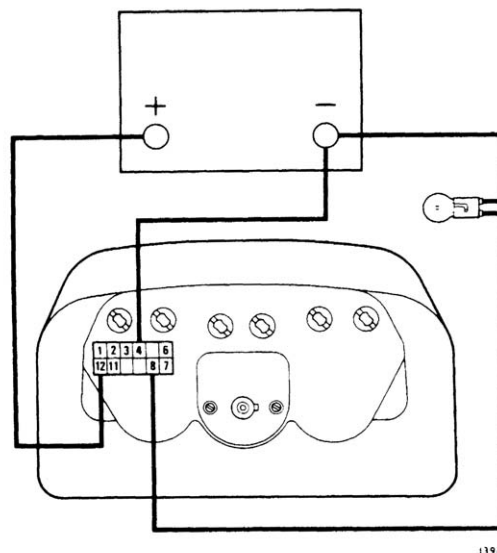

Fig 19 - Water temperature gauge test
71 To test the water temperature gauge, connect terminal (4) to the supply negative terminal (12) to positive and terminal (8) via a 6 watt test lamp to the supply negative (Fig 19). The gauge pointer should register at the 130 end of the scale